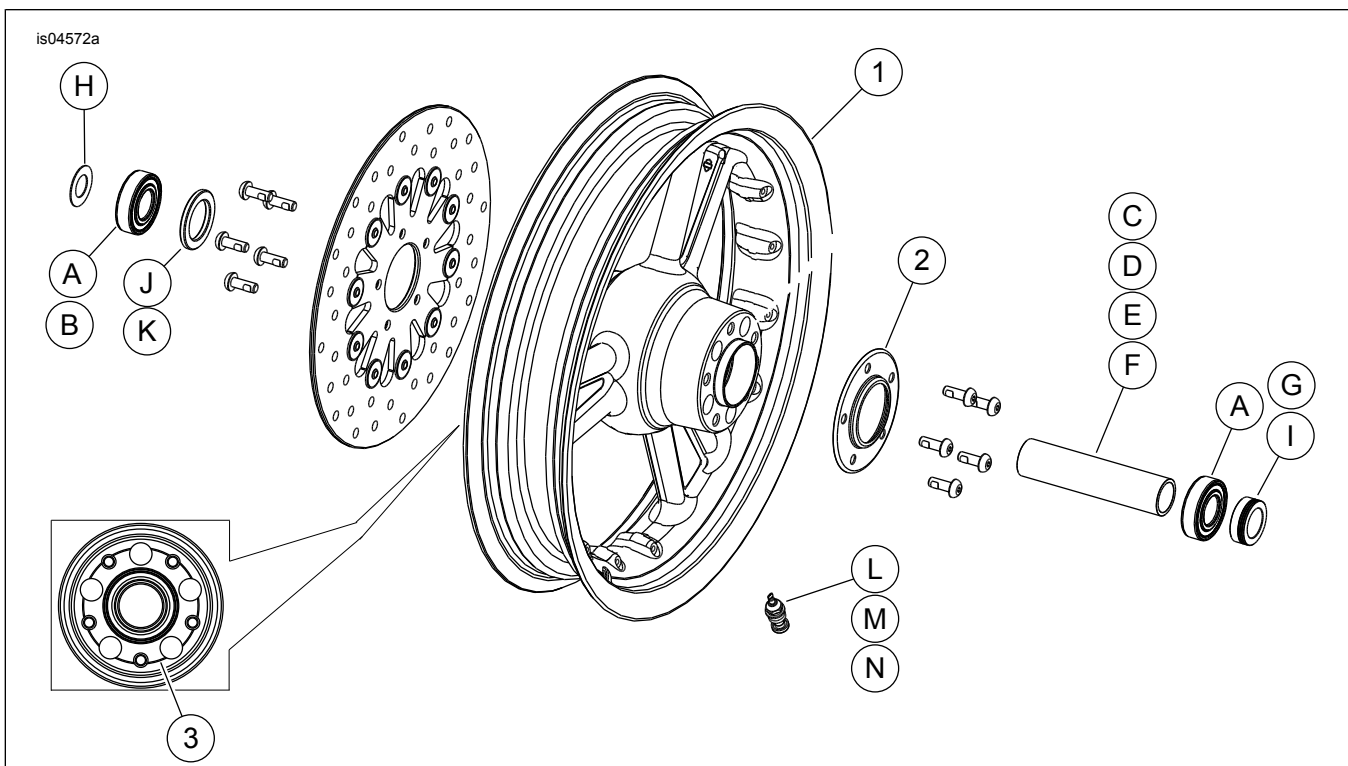

Figure 1. Service Parts: Front Detonator Wheels (16-inch wheel shown)
See Figure 1 and Service Parts Tables.
2. See Figure 1. Install valve stem assembly (M) on wheel. Refer to TIRES in service manual.